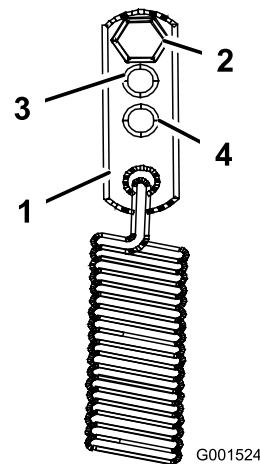

Figure 45
3. For a heavier drive setting, relocate the spring anchor links to either the medium or heavy duty positions (Figure 45). The spring anchor links are attached to the upper rear corner of the hydro drive shields on the left and right sides of the machine.
The parking brake lever is on the right side of the machine (Figure 45). If the parking brake does not hold securely, adjust it.